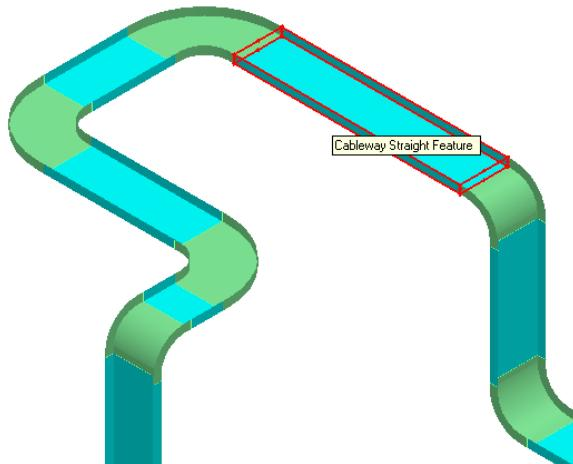

Figure 9: Cableway Straight Feature
2. Select the **Cableway Straight Feature** from the graphic view that you need to delete, as shown in Figure 9.